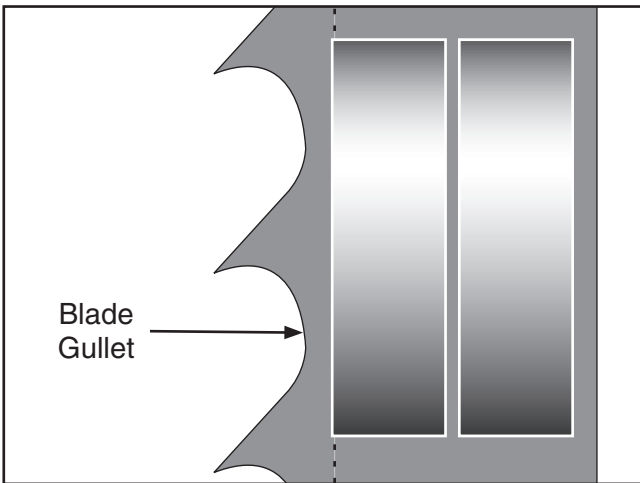

Figure 10. Lateral adjustment of blade guides.
- Loosen the cap screw on the lateral adjustment rod, loosen the support bearing adjustment shaft cap screw, and adjust the blade guides until the edges of the bearings are $\frac{1}{16}$ " behind the blade gullets as illustrated in **Figure 10**.